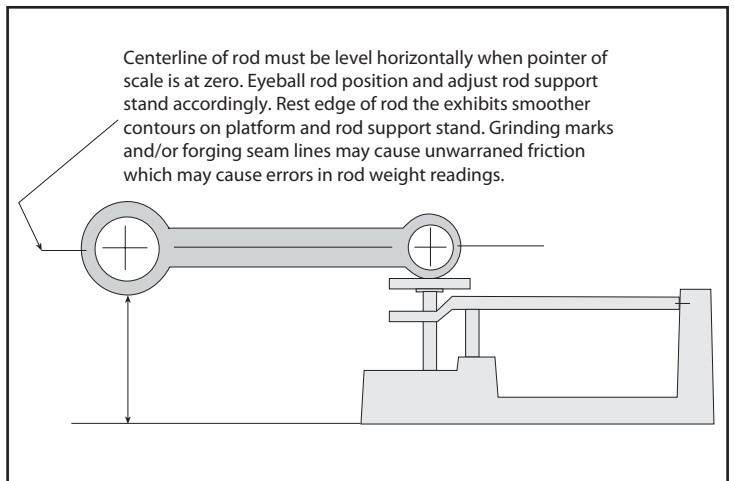

Figure 1
- K. Small end of front rod. **See Figure 1** for correct positioning to weigh connecting rod.